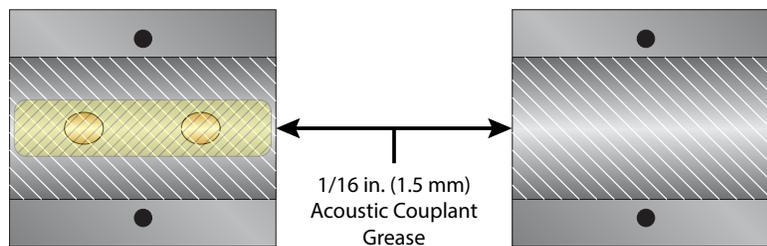

Figure 10: Application of acoustic couplant
2. Apply a thin coating of acoustic coupling grease to the half of the housing where the transducer will contact the pipe. See Figure 10.